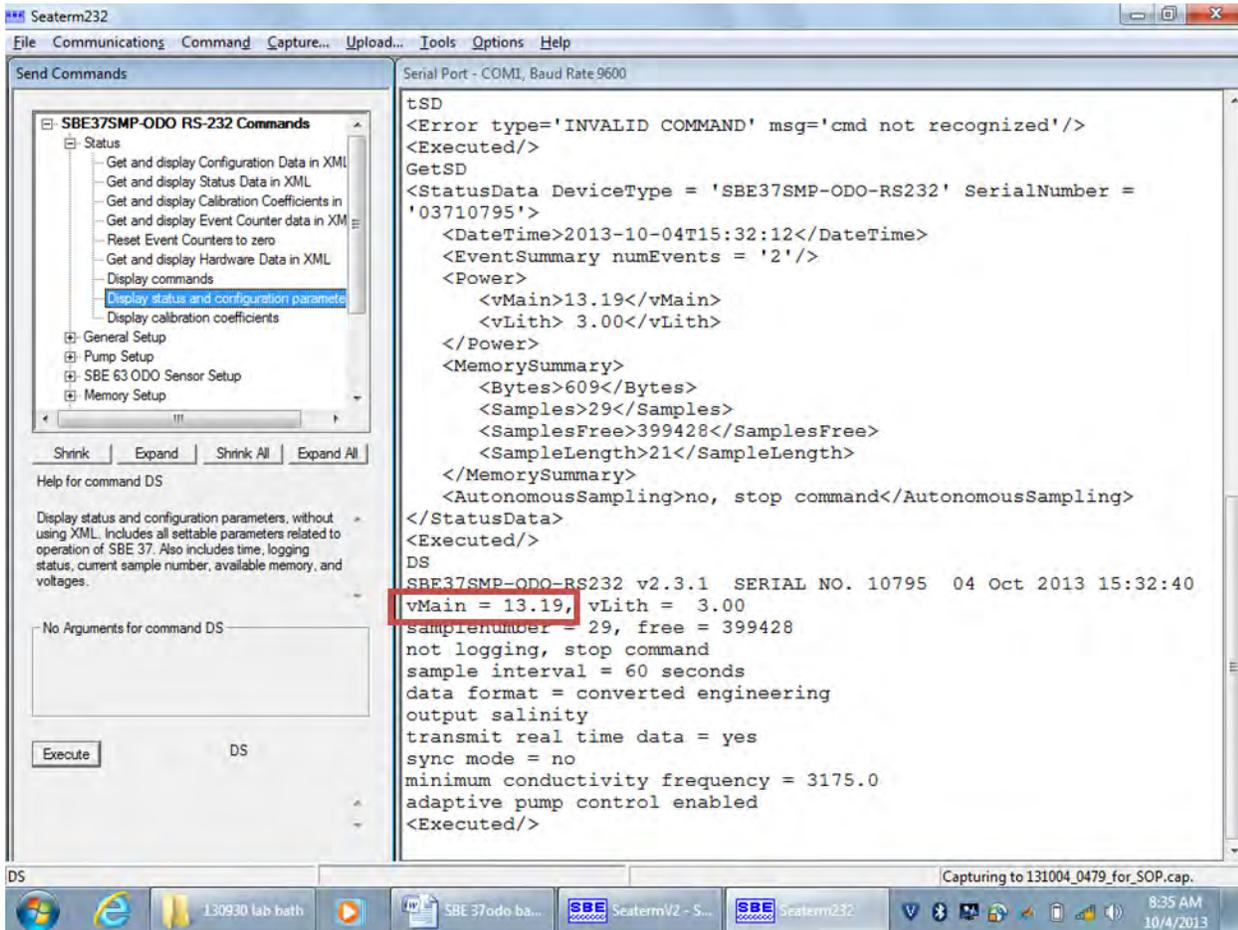

Figure 27. Image showing status of SBE 37-SMP-ODO in bottom of data echo area. Red box highlights where to find sensor battery voltage.
6. Use the SBE SeaTerm V2 software to confirm that each CTD's battery power is sufficient for running the sensor performance test (Figure 27).